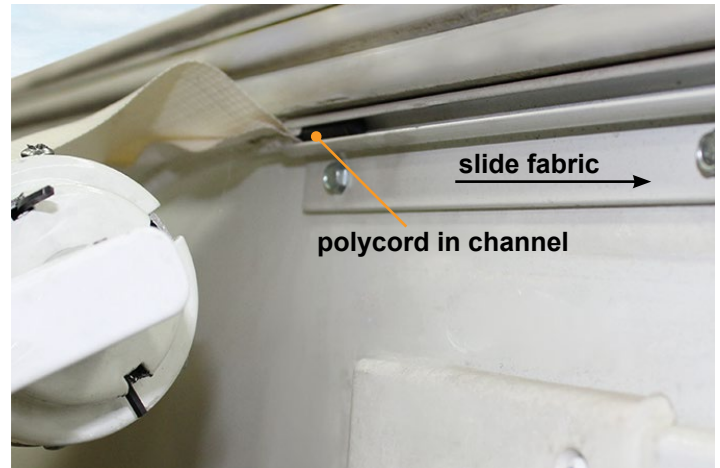

Fig. 6
4. Using at least two people, feed the black polycord through the awning rail channel (Fig. 6).